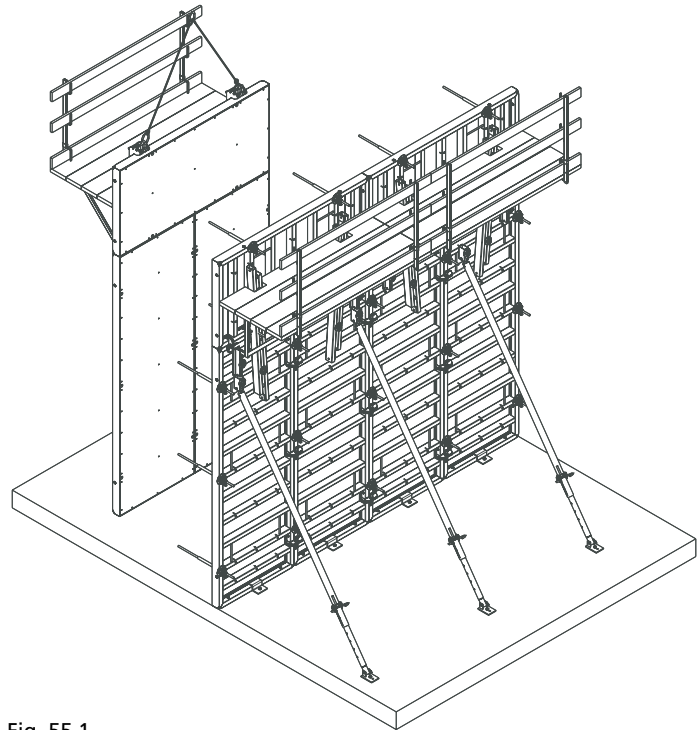

Fig. 55.1
**2.** Lift the second side gang form, apply form release agent, and set into place (Fig. 55.1). Anchor braces and install and anchor shoe plates if being used on second side. Otherwise, install taper ties or remaining components of other tie systems and secure with flange nuts.